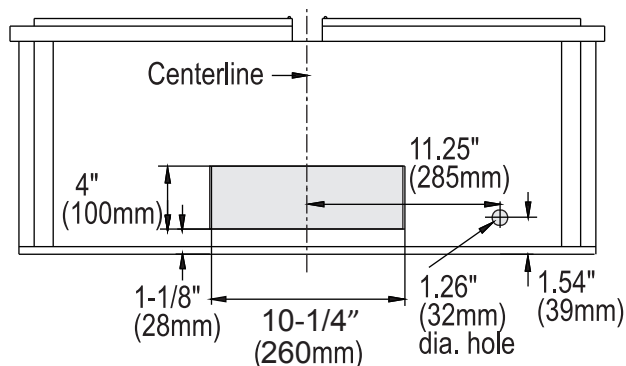
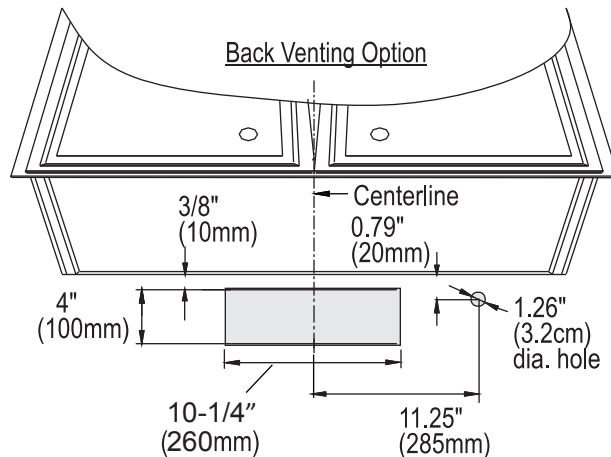

Fig.3
Fig.4
A. Determine if your existing venting system is top venting or back venting, and ensure that the openings in the cabinet or wall for the damper and for power access are in appropriate locations and are of appropriate sizes, as per Fig. 3. if it is top vent or Fig. 4 if it is back vent.
B. If this is a new installation, choose the venting method that suits your needs. Cut out openings for the damper and for power access in the cabinet bottom or exterior wall. Following Fig. 3 if it going to be a top vent or Fig. 4 if it is going to be a back vent.